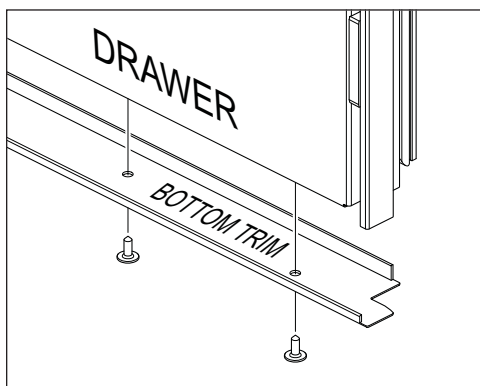

Figure 6. Bottom Trim Removal
3. With a T-15, 6-lobe Torx type bit, extract the bottom trim mounting screws and pull the bottom trim from the drawer (See Figure 6).